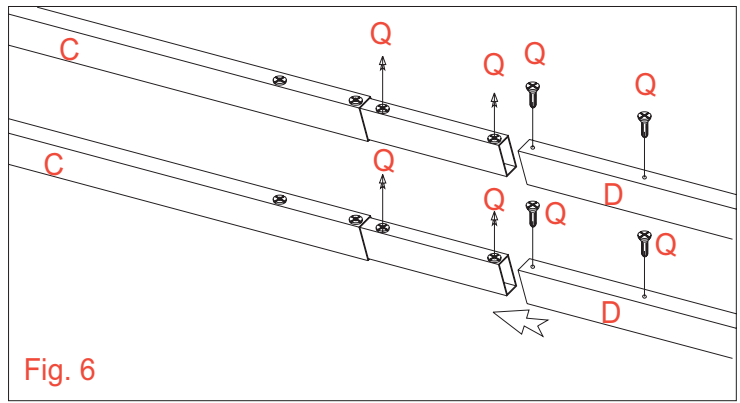

Fig. 6
1. (Fig. 6) Unscrew 4 screws Q and join 2 crossbars C with 2 crossbars D and screw the 4 screws Q.